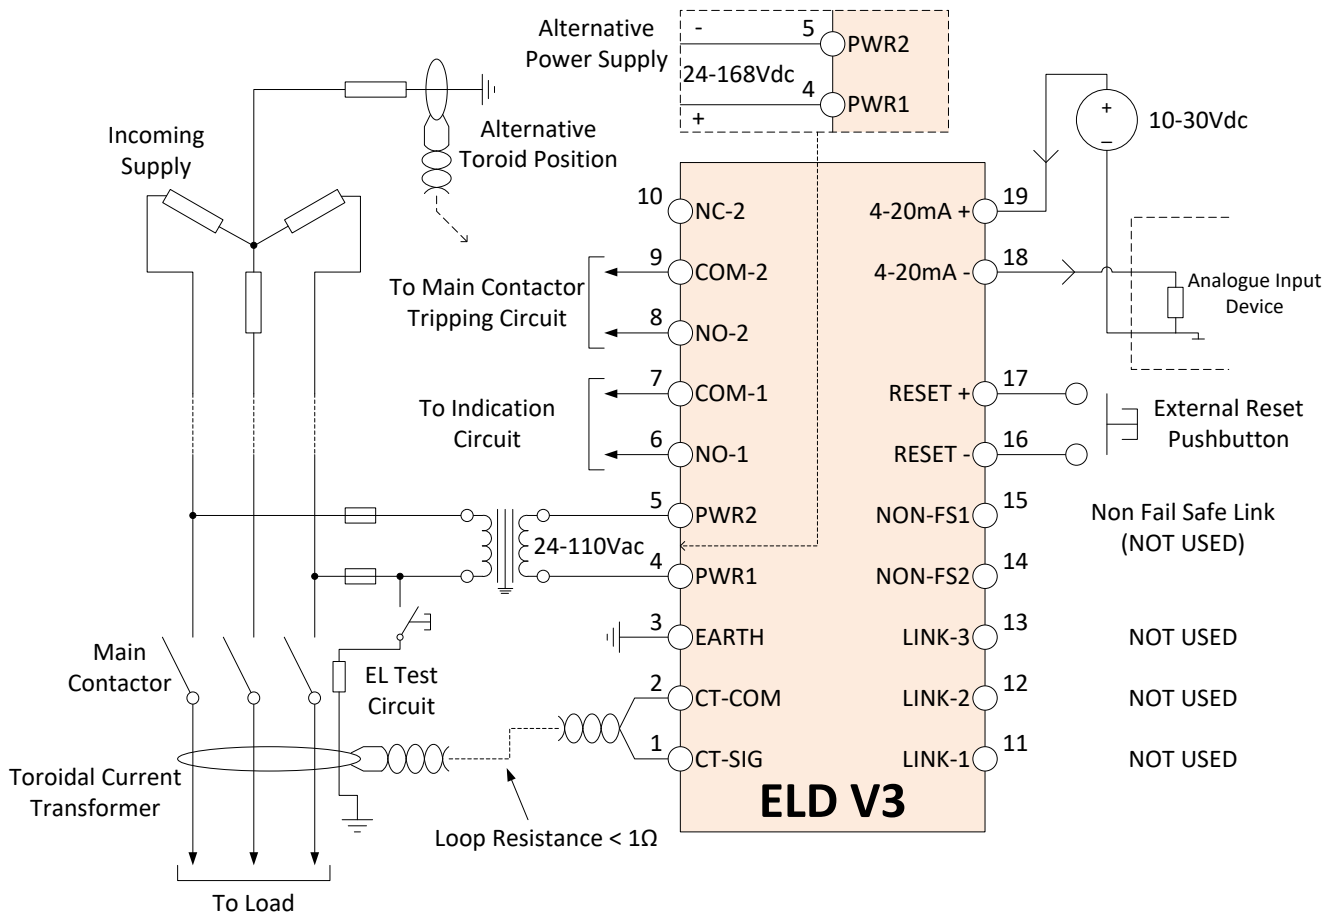

Figure 4-5: ELD V3 Typical Connection Diagram
The 4-20mA output should be wired as per Figure 4-5.
The ELD V3 can be reset using the pushbutton on the fascia of the relay, or by bridging the two RESET terminals on the relay using a normally open (NO) pushbutton or relay contact connected to the terminals labelled “Ext Reset” (see Figure 4-5 for connection information).